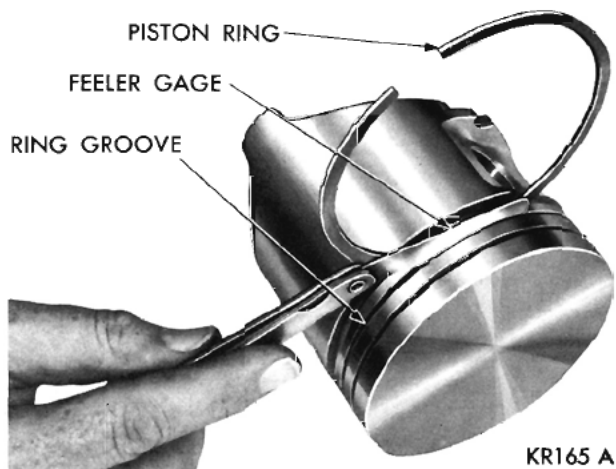

Fig. 105—Measuring Piston Ring Clearance
(3) Measure the side clearance between piston ring and ring land. The clearance should be .0015 to .003 inch for the top compression ring and the intermediate ring, and .001 to .009 for the oil control ring. (For new service rings.) (Fig. 105.)
(4) Install the oil ring in the lower ring groove using the instructions in the service ring package.
(5) Install the compression rings in the middle and top grooves with side marked "TOP" up; use ring installer Tool C-263 for the 273 Cubic Inch Engine, Tool C-3586 for the 318 Cubic Inch Engine, Tool C-3673 for the 383 and 426 Cubic Inch Engines, Tool C-3628 for the 361 Cubic Inch Engine.